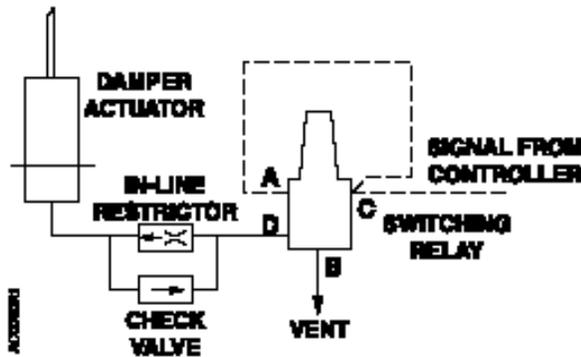

Figure 5. Time Delay Slow to Supply - Fast to Exhaust.
- Fast to supply, slow to exhaust. See Figure 5.